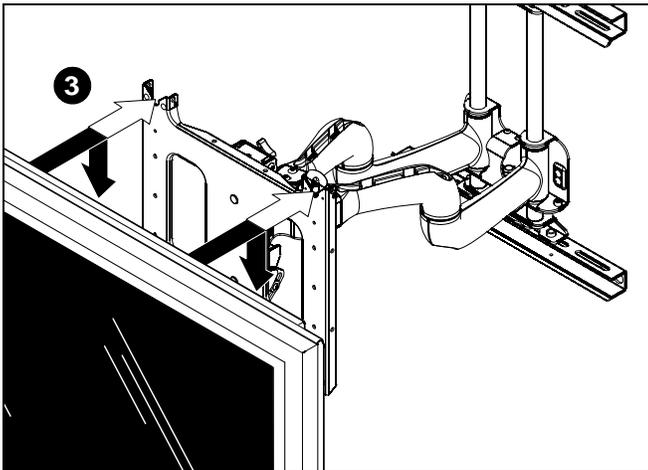

Figure 6
3. While supporting both sides of display, align four mounting buttons on display or interface bracket with four mounting holes in head assembly. (See Figures 6 and 7)
4. Lower display into place listening for audible "click" to ensure recessed area of mounting buttons are properly seated in lower area of mounting holes. (See Figures 6 and 7)